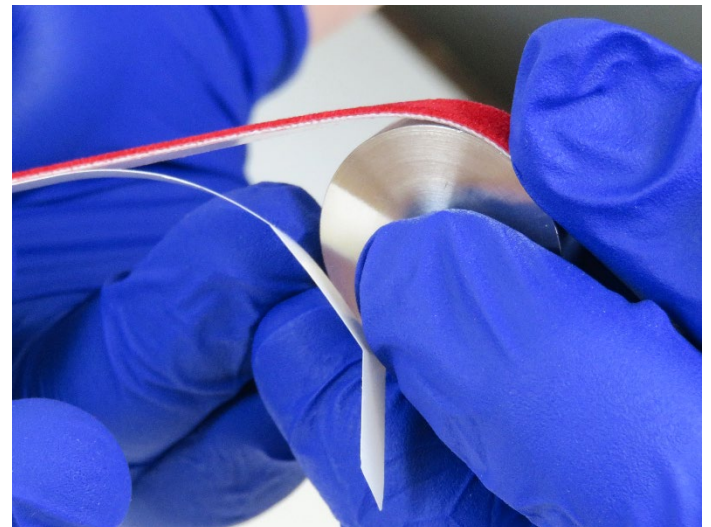

Figure 5: Wrapping the Cloth around the Tool
4. Next, firmly press down and begin to rotate the Tool in one hand while peeling the cloth away from the backing with the other (*Figure 5*). While applying the cloth to the Tool, it is important to maintain the correct tension on the cloth such that when ends meet, the cloth edges almost touch (see following page)